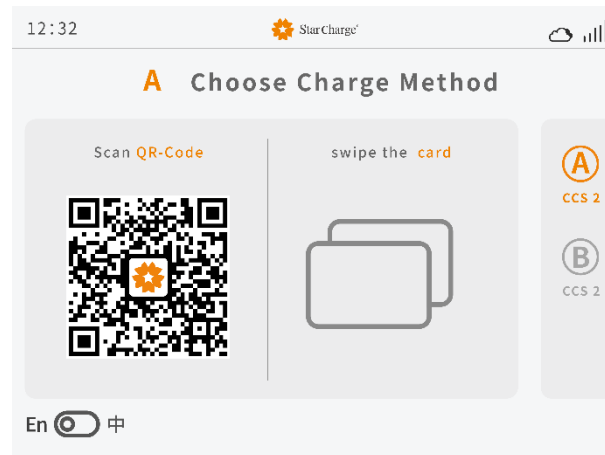

Figure 3-2 Charge by card
Step 2: Start charging by swiping card: Use IC card to place EVSE in the card swiping area to start charging, as shown in Figure 3-2. Click A and B buttons on the far right of the screen to switch to the interface of other charging connectors.